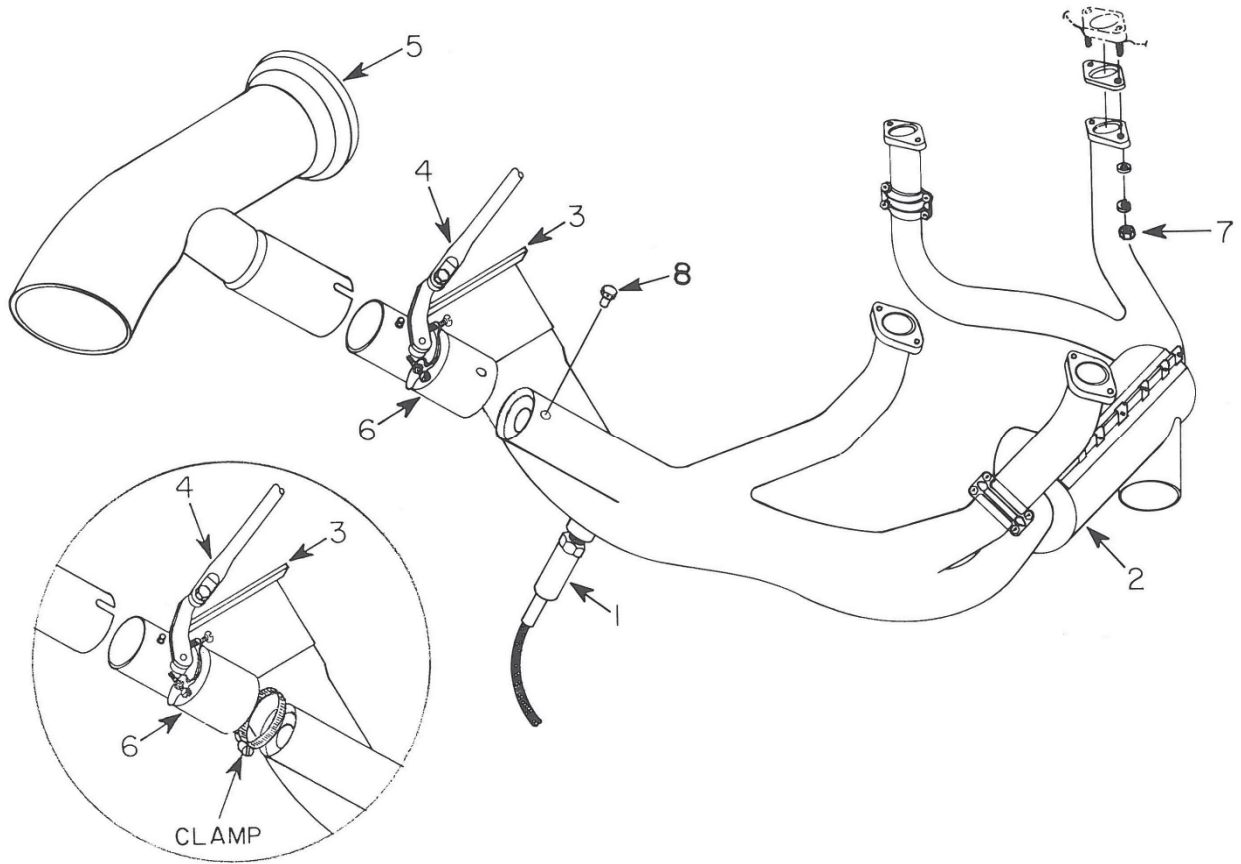

Figure 13-3. Engine Exhaust System and Wastegate
B. Exhaust Manifold – Removal (See Figure 13-3)
- (1) Disconnect exhaust gas temperature (EGT) probe (1) from exhaust manifold.
- (2) Remove ducting from the heater muff (2).
- (3) Loosen turbocharger exhaust inlet clamp (3) and slide it down on the exhaust tube.
- (4) Remove exhaust inlet gasket.
- (5) Disconnect linkage (4) at the wastegate.
- (6) Remove clamp from turbocharger outlet (5).
- (7) Remove exhaust outlet and gasket.
- (8) Remove safety wire and retention pin (8) then remove wastegate (6).
- (9) Remove two nuts (7) on exhaust flange on each cylinder.
- (10) Break loose the sleeve joint at the heater muff. This will allow the exhaust system to be removed in two pieces.
D. Exhaust Manifold – Installation (See Fig. 13-3)
- (1) Assemble the muffler cuff.
- (2) Install the right side manifold section with new gaskets and hardware. DO NOT TORQUE.
- (3) Insert heater muff sleeve on left half of manifold, over right side manifold.
- (4) Install left side manifold section to engine with new gaskets and hardware. DO NOT TORQUE.
- (5) Connect exhaust manifold to turbocharger inlet (3).
- (6) Install wastegate assembly (6).
- (7) Install exhaust outlet, shims, and clamp (5).
- (1) Check freedom of operation of injector to wastegate rod "breakaway" function by holding the wastegate arm stationary, partially opened, and rotating the throttle in both directions causing rod to break away and move approximately two inches in each direction.
- (2) Insure breakaway mechanism is engaged after completion of operational check.
F. Wastegate - Rigging (See Fig. 13-3)
- (1) Set injector to full throttle position.
- (2) Check wastegate butterfly to insure it is fully closed.
- (3) Adjust butterfly position by adjusting the inboard rod end.
- (4) Adjust wastegate closed stop to provide a .015-.020 gap between stop and arm.
- (5) Lock closed stop with jam nut.
- (6) Set injector to position throttle arm on the idle stop.
- (7) Check wastegate butterfly to insure it is open past center.
- (8) Adjust wastegate open stop to provide a .015-.020 gap between stop and arm.